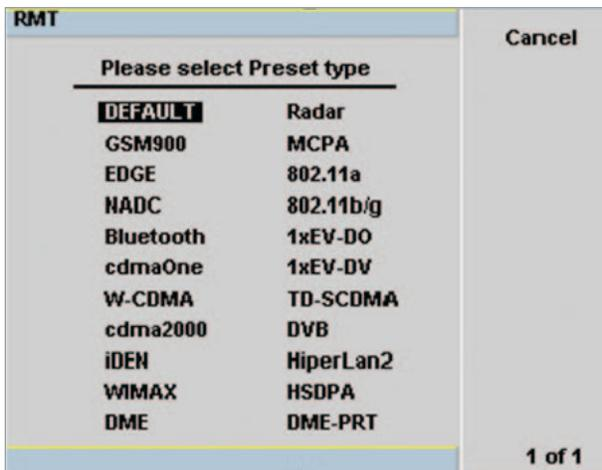

Figure 14. Measurement presets include options for radar and DME.
- *Measurement presets* greatly simplify measurement setup. Based on the selected preset, parameters such as frequency, power, time scale, triggering, display format, and time gates are configured automatically. Figure 14 shows some examples of measurement presets for applications on an Agilent power meter. These include radar, DME, and DME-PRT.